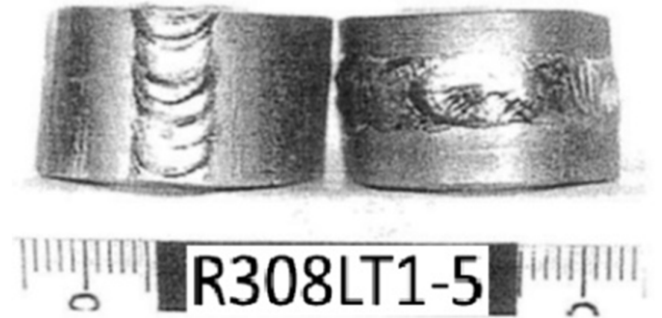

Fig. 9 : Bend specimen
**Mechanical properties:** The Non-purging filler wires deliver very good tensile strength combined with elongation because of low impurities. This also results in excellent Impact properties @ minus 196°C and meeting IGC practice-E (**Fig. 9**) test requirements.